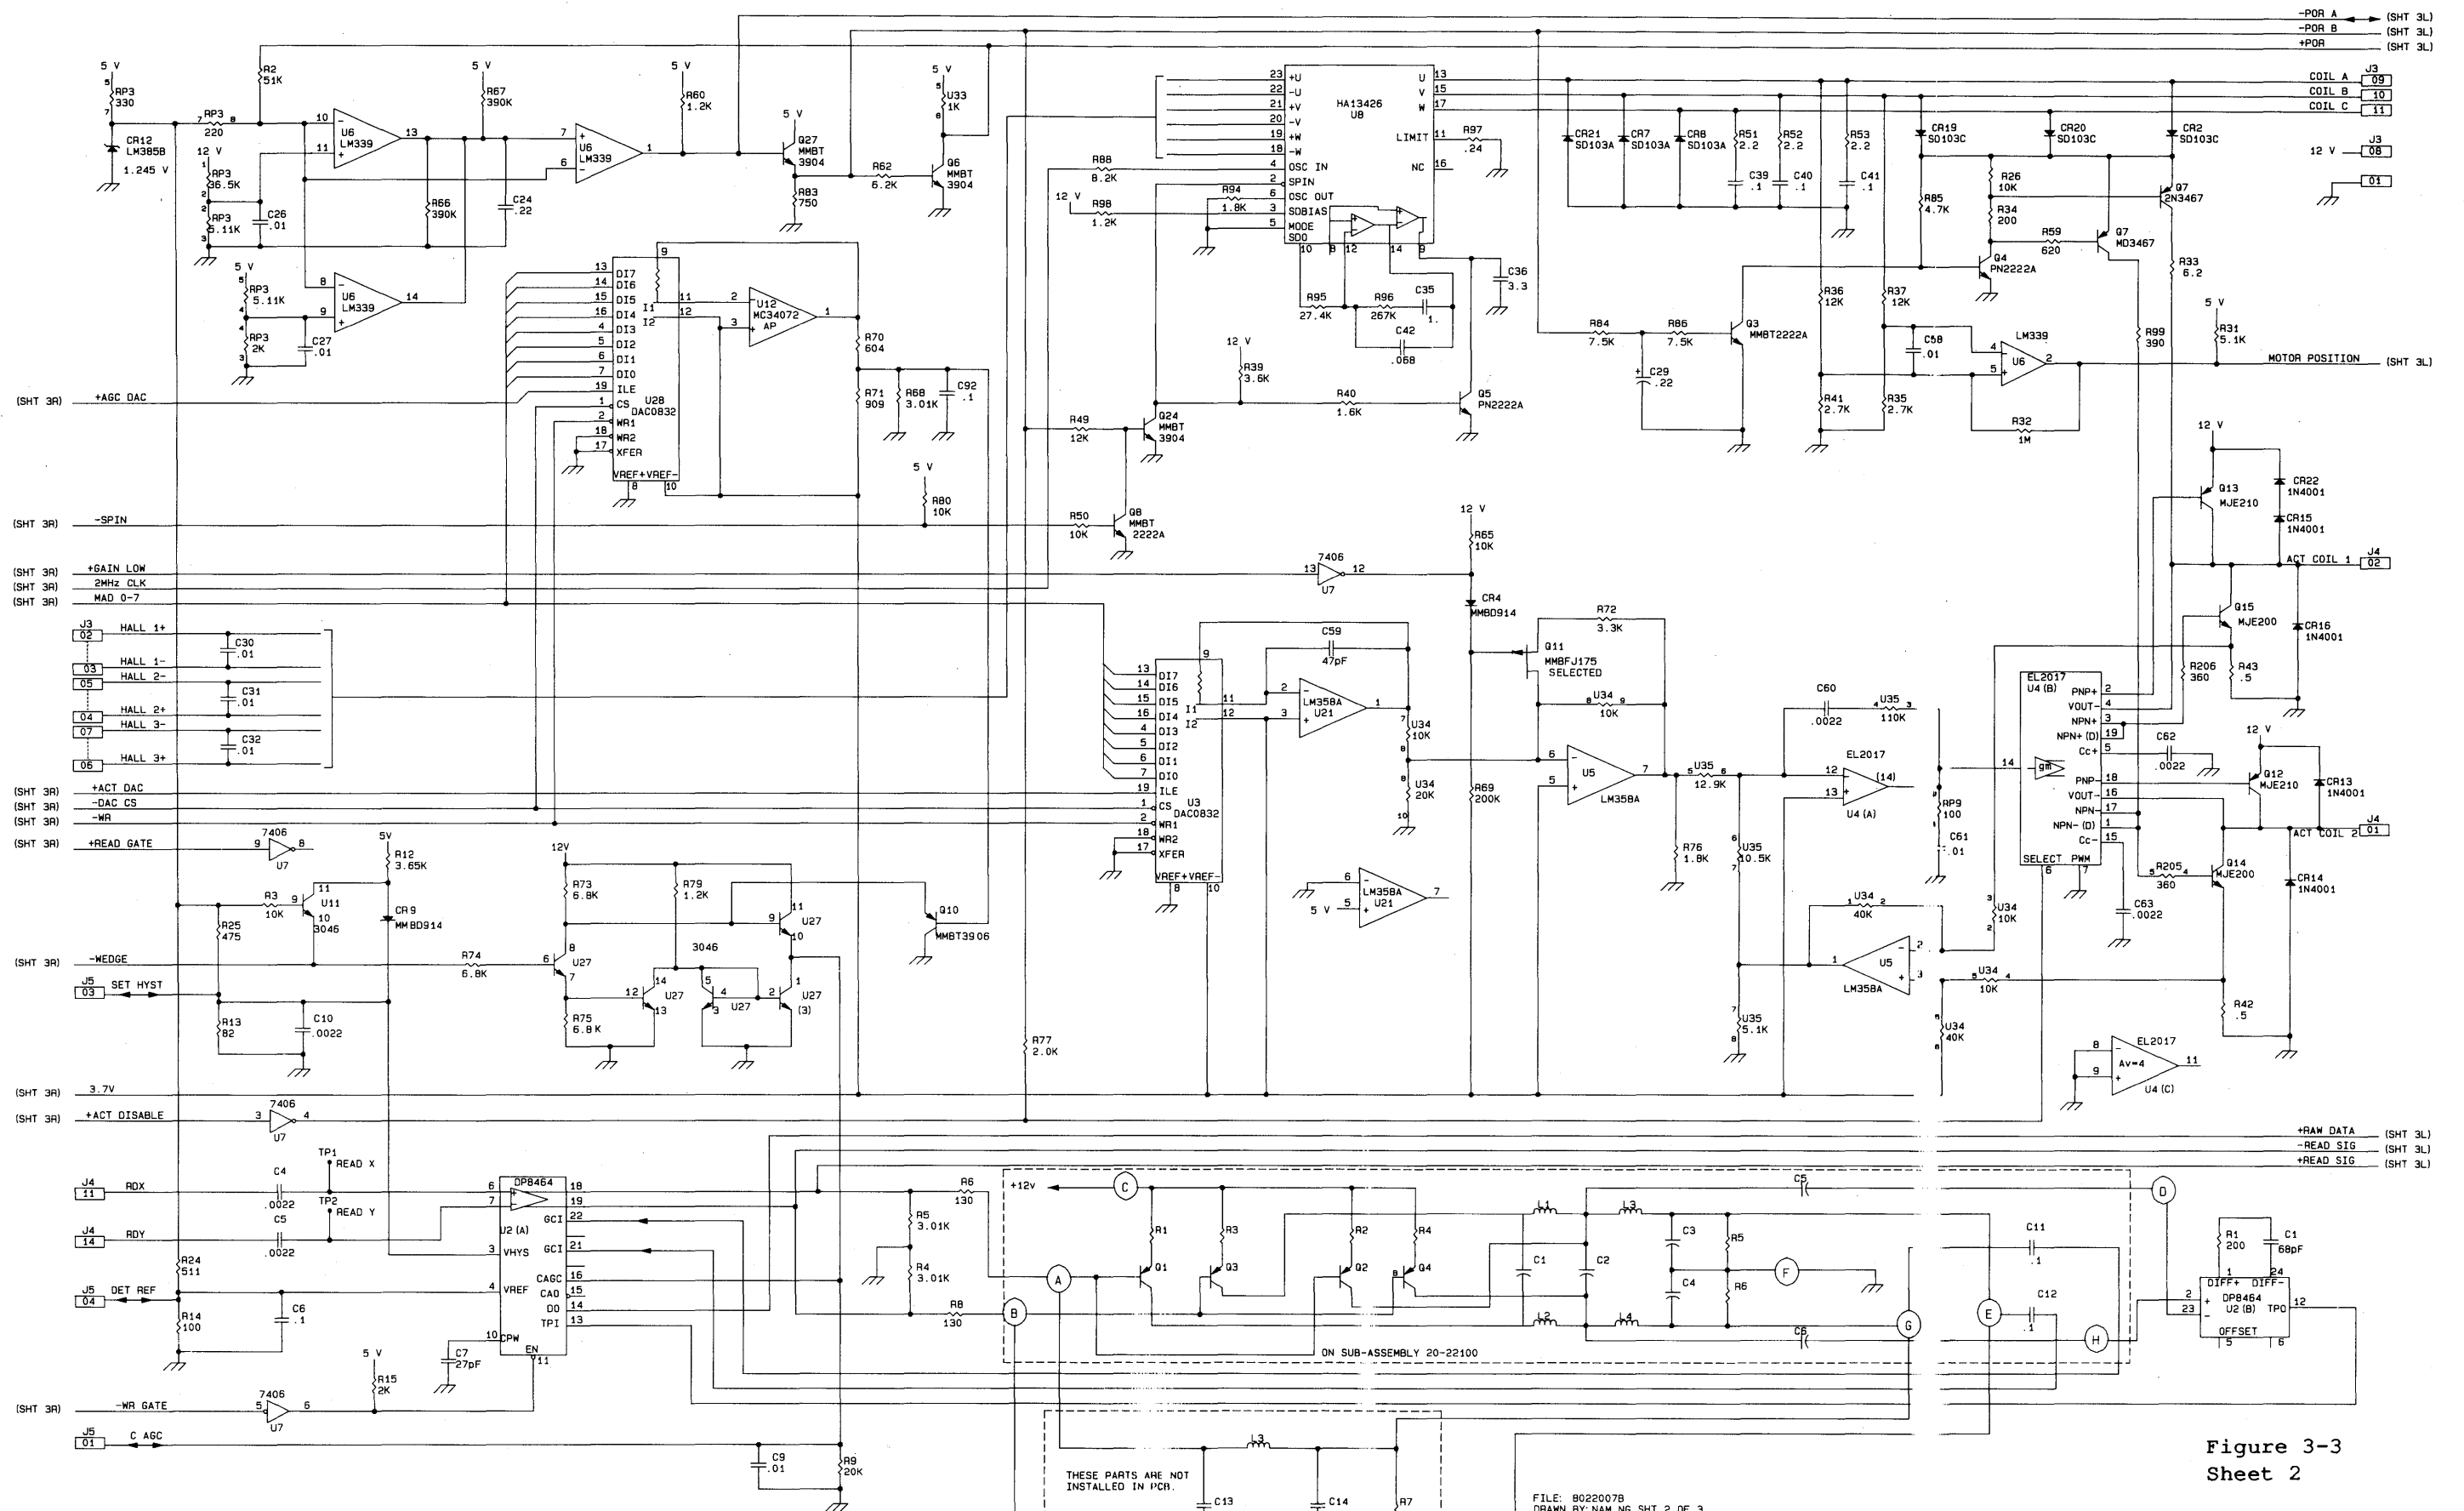

Figure 3-3
- Figure 3-3: Schematic, PCB-7, Sheet 2